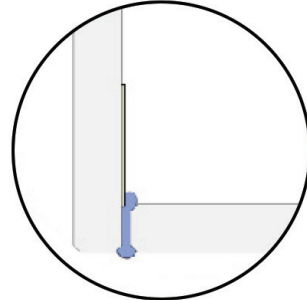

FIG 12.
- Gently place glass to glass panel into siliconed floor channel and tilt gently upwards until it joins to glass to wall panel (FIG 12). Ensure there is no side to side movement while placing panel as this will smear silicone.